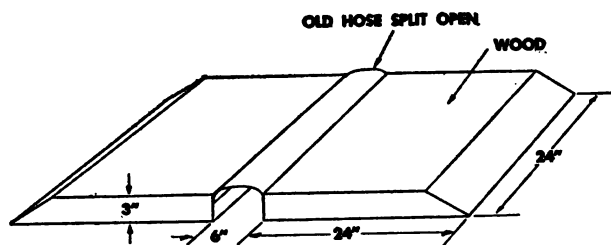

Figure 40. Standard hose bridge.
(1) Build two standard bridges (fig. 40) and carry them on truck at all times. After hose lines are stretched, set bridges across hose, about 3½ to 4 feet apart. If standard bridges are not available, build an expedient bridge with materials found at scene of fire. A simple bridge consists of planks